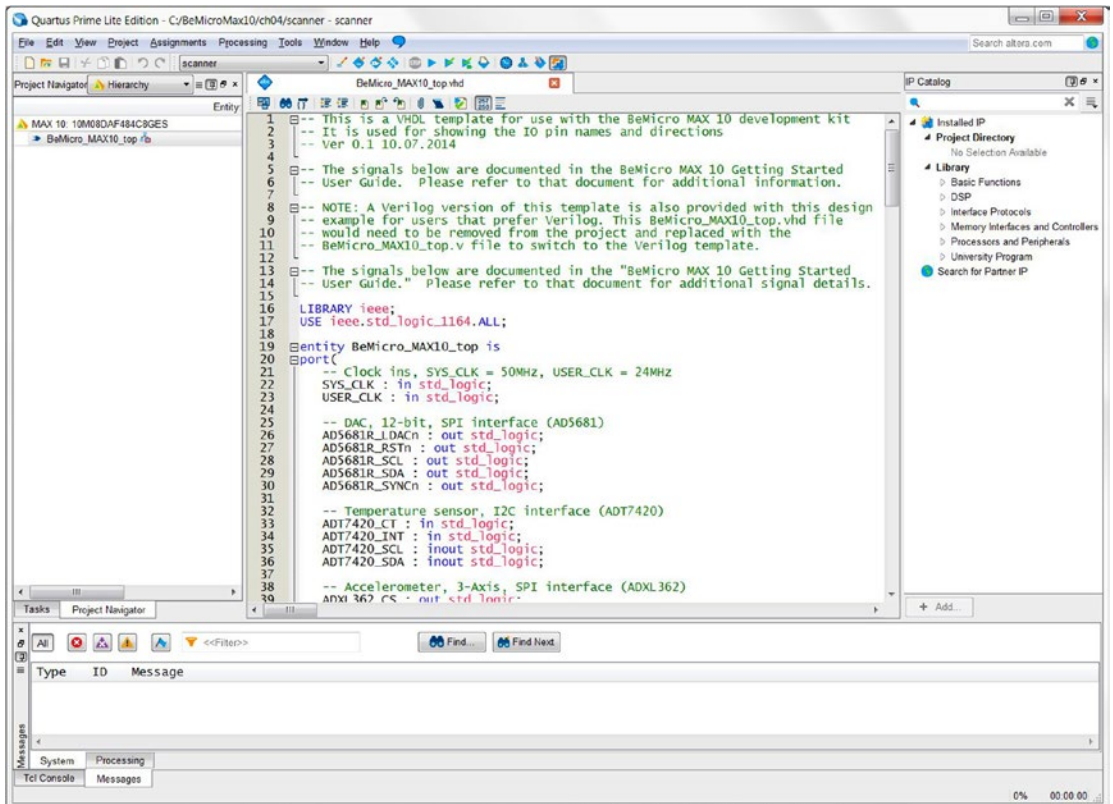

Figure 4-20. Open *BeMicro_MAX10_top.vhd* template file
4. Double-click **BeMicro_MAX10_top** in the Project Navigator. It will open the BeMicro_MAX10_top.vhd file in the middle of Quartus Prime (Figure 4-20).